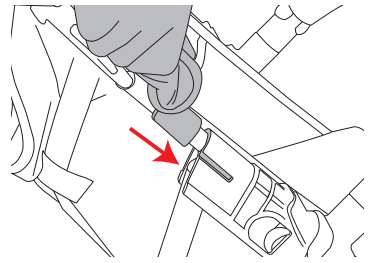

Figure 18
- Locate the plastic slide locks on the bottom of each side of the canopy and slide them onto the plastic fitting on each side of the stroller just above the rear leg. See Figure 18.